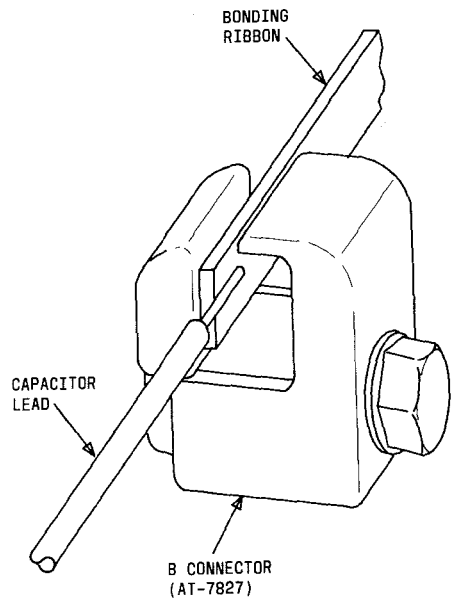

Fig. 12—Connecting Bonding Ribbon and Capacitor Leads with B Connectors
- (b) Connect the bonding ribbon to the capacitor leads with B connectors (AT-7827) as shown in Fig. 12. The length of the leads should be as short as possible without placing them under tension.